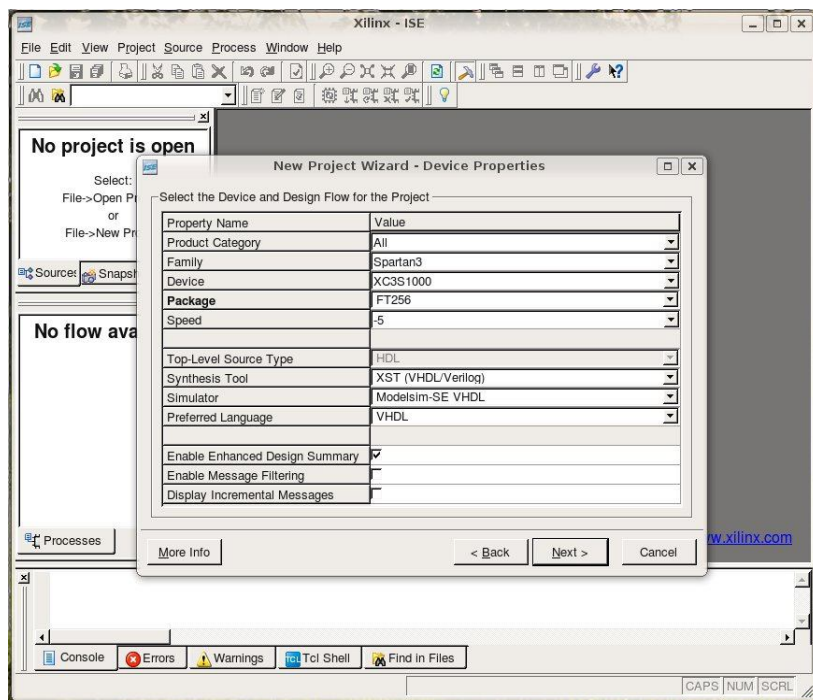

Figure 2 : Selecting the FPGA Device (Spartan3, XC3S1000, FT256)
2. Select the FPGA device (Figure 2).